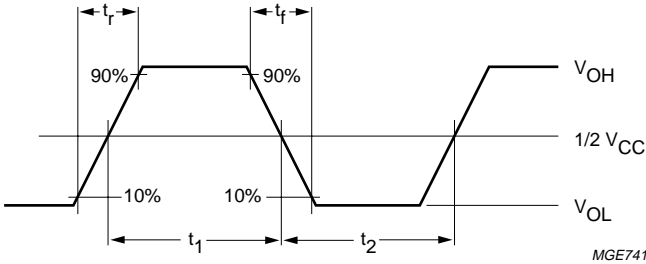

Fig.13 Definition of transition times.
- The transition time and duty cycle definitions are shown in Fig.13;  $\delta = \frac{t_1}{t_1 + t_2}$